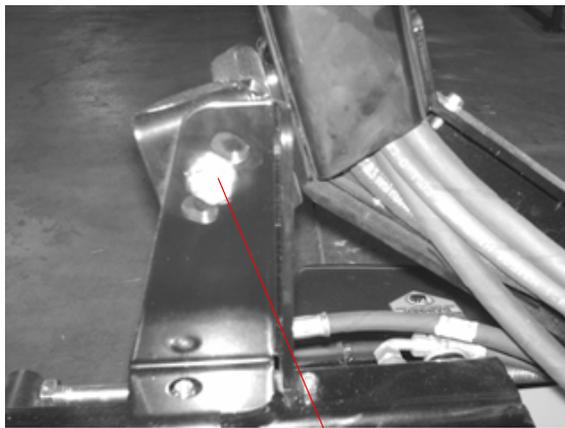

Figure. 1 *Steering column*
- This machine has an adjustable Steering column. It can be adjusted rearward/upward or forward/downward by repositioning the column. See Figure 1 below.